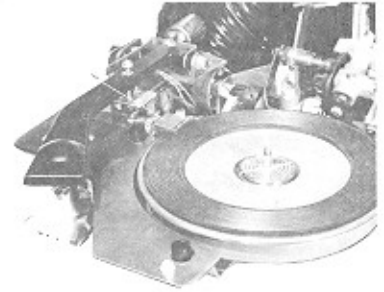

FIGURE 1-3. REMOVING MECHANISM TIE-DOWN
1. Remove shipping bolt from rear of cabinet as shown in figure 1-3.